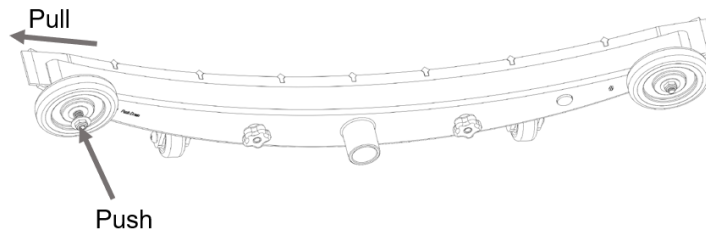

FIG.26
3. Replace or reverse the blades if necessary. The operation is as shown in Fig.26.